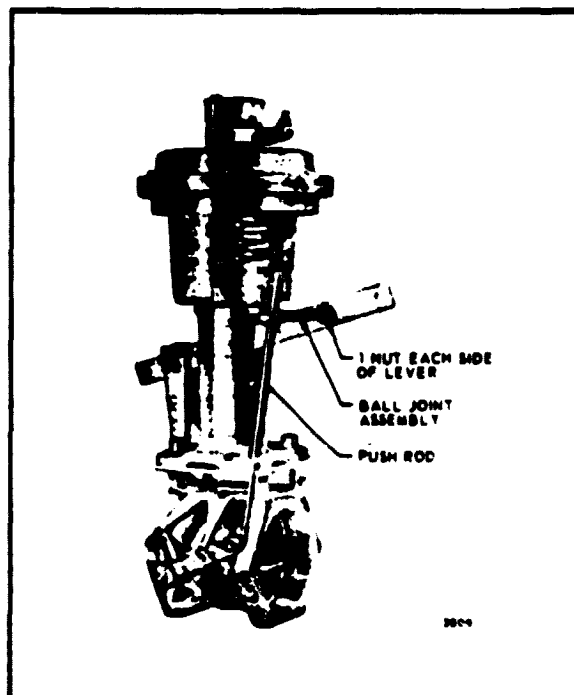

FIG. 10—TYPICAL COMBINATION OF V51E AND O3 MOTOR PNEUMATIC ACTUATOR, AND Q524A LINKAGE.
6. Add the ball joint assembly and push rod as shown in Fig. 10.